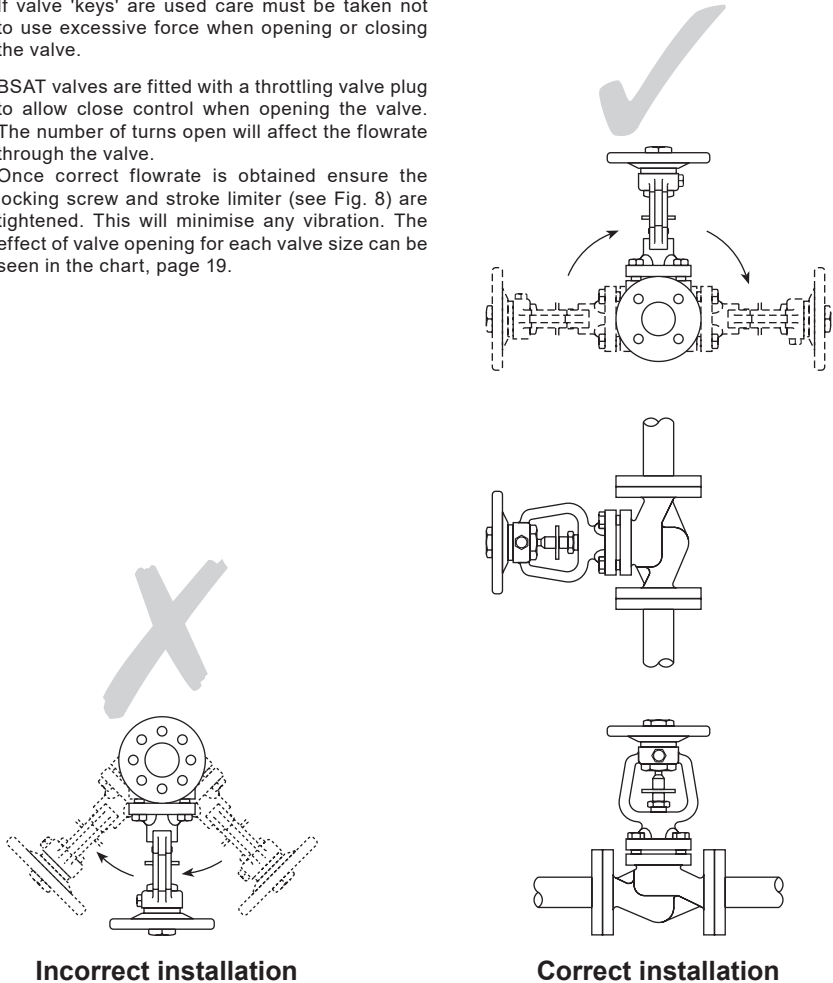

Fig. 7
- 3.3** Install the valve in the direction of flow given by the arrow on the body. The preferred position is with the spindle vertical. The valve can be installed from the vertical to the horizontal plane (see Figure 7).